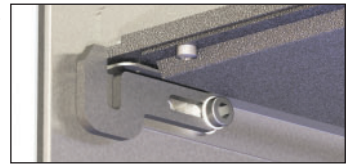

Fig. 23 Thermoshelf locked in place
2. Turn the locking hook upwards and press it backwards against the thermoshelf (Fig. 23).